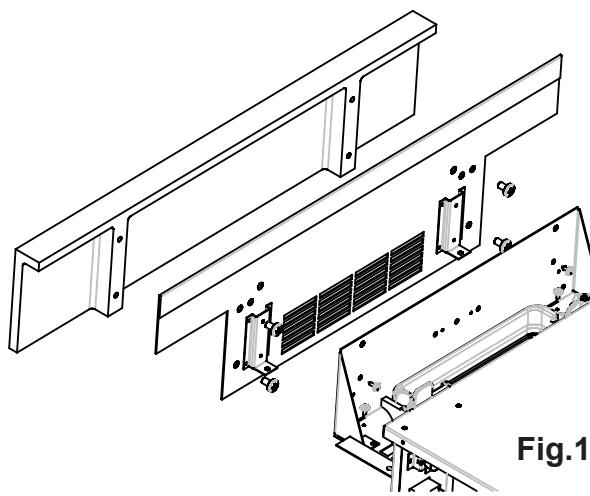

Fig.19
2. Remove the 4 screws as shown in Fig.19 removing the drawer cover and metal mounting plate.